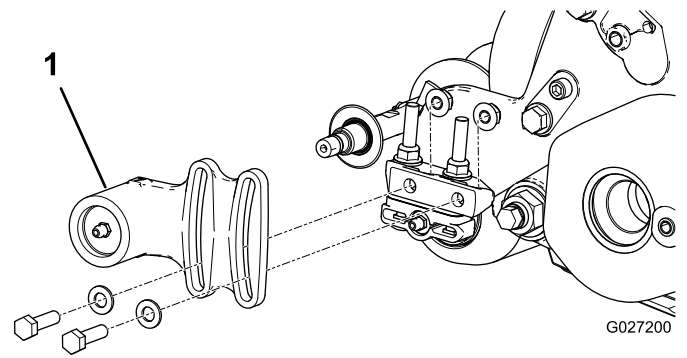
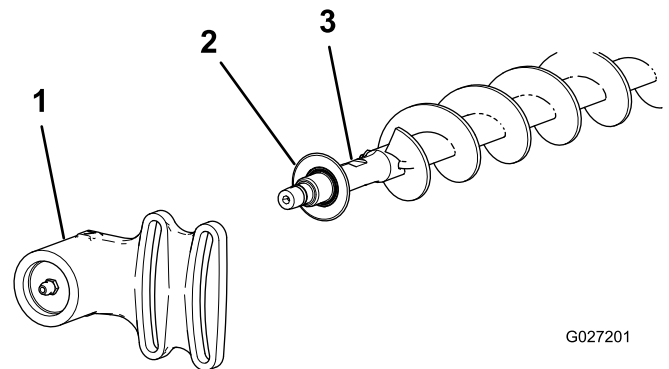

Figure 18
Figure 19
1. If a roller brush is installed on the cutting unit, remove the 2 bolts, washers, and nuts securing the non-drive-bearing housing to the bearing-housing mounting bracket (Figure 18) and (Figure 19).
2. Slide the non-drive-bearing housing and the excluder seal off the brush shaft (Figure 19).
9. Install the excluder seal and the non-drive-bearing housing onto the brush shaft (Figure 19).